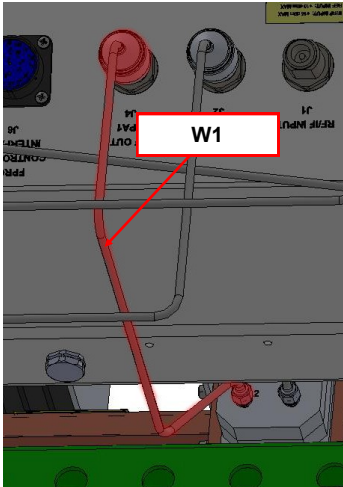

Figure 4-18: Connect W1 to Signal Box J4 (HPA1) and SW2-2
3. Locate the coaxial cable labeled W1. This cable will run beneath the signal box as shown in **Figure 4-18**. Connect the N-type connector to Port J4 of the signal box. Connect the SMA connector to Port 2 of SW2.